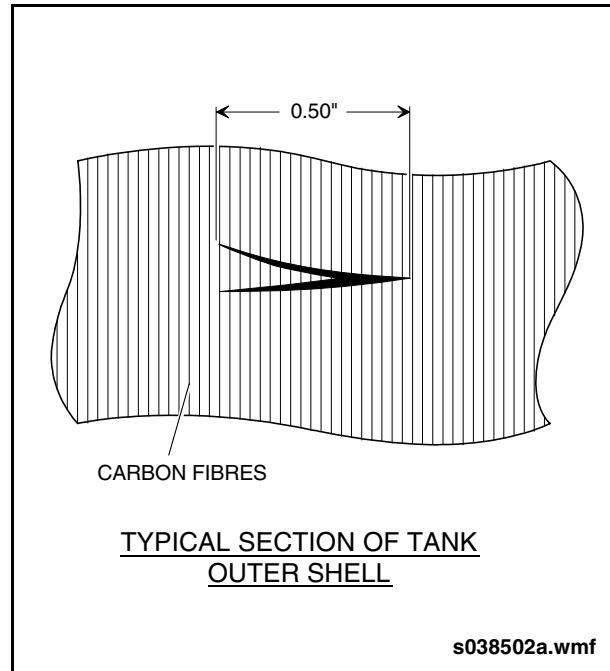

Fig. 7-23: Lvl. 2b-Gouge Damage (requires factory inspection)
3. The container has Level 2b damage that cannot be fully assessed in a field inspection and must be subjected to factory inspection. See "Fig. 7-23: Lvl. 2b-Gouge Damage (requires factory inspection)" on page 67.